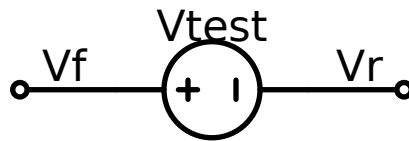
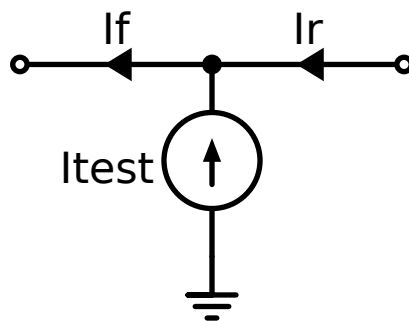

Figure 41: Middlebrook voltage loop gain simulation.
Figure 42: Middlebrook current loop gain simulation.
When we want to do a closed-loop gain analysis (for stability or other investigations), we have the need to break the loop at one point, apply a stimulus, and monitor the response on the other end. By doing this we want to keep the loading on both ends similar to the original case. To achieve this, we break the loop at one point by inserting (1) an ac voltage source, and (2) attach an ac current source, as shown in Figure 41 and Figure 42. The derivation of this approach is presented in (Middlebrook 1975), and has the big advantage that loading is not changed, and the bias points are also correct.